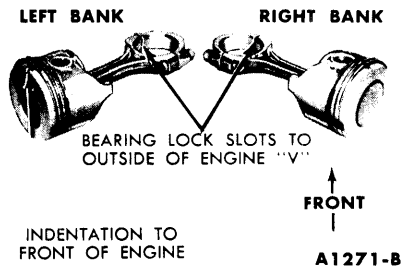

FIG. 46—Connecting Rod and Piston Assembly
1. Lubricate all parts with light engine oil. Position the connecting rod in the piston and push the pin into place. Assemble the piston and connecting rod as shown in Fig. 46.